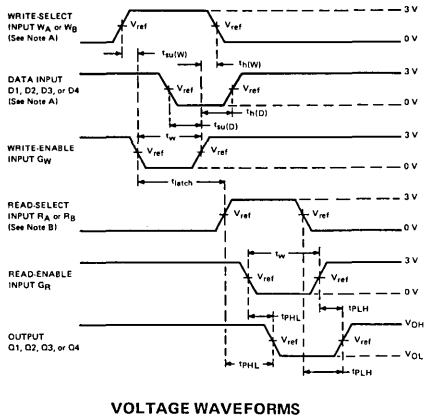

FIGURE 2
4. Latch time is the time allowed for the internal output of the latch to assume the state of new data. See Figure 2. This is important only when attempting to read from a location immediately after that location has received new data.
- NOTES: A. High-level input pulses at the select and data inputs are illustrated in Figure 2; however, times associated with low-level pulses are measured from the same reference points.